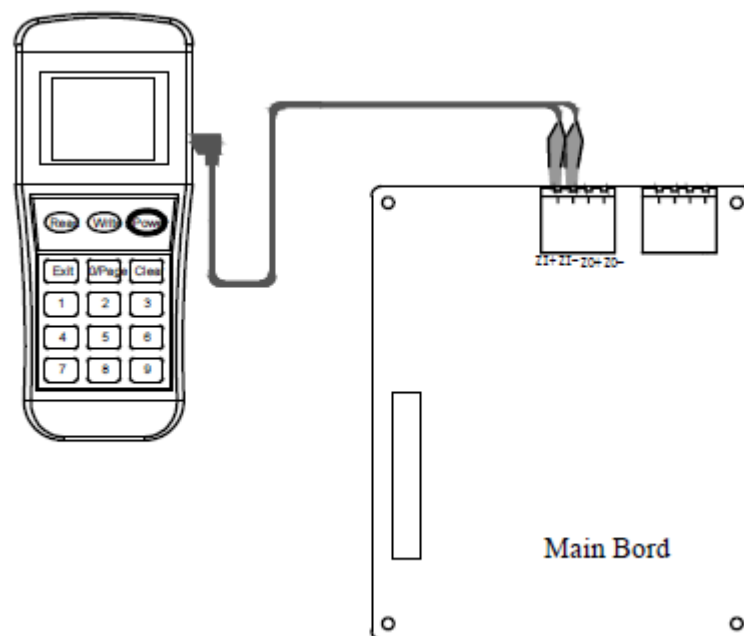

Figure 9: Programmer Connection Detail
1. Connect the programming cable to ZI+ and ZI- (or ZO+ and ZO-) terminals (Figure 9). Press **"Power"** to switch on the unit.